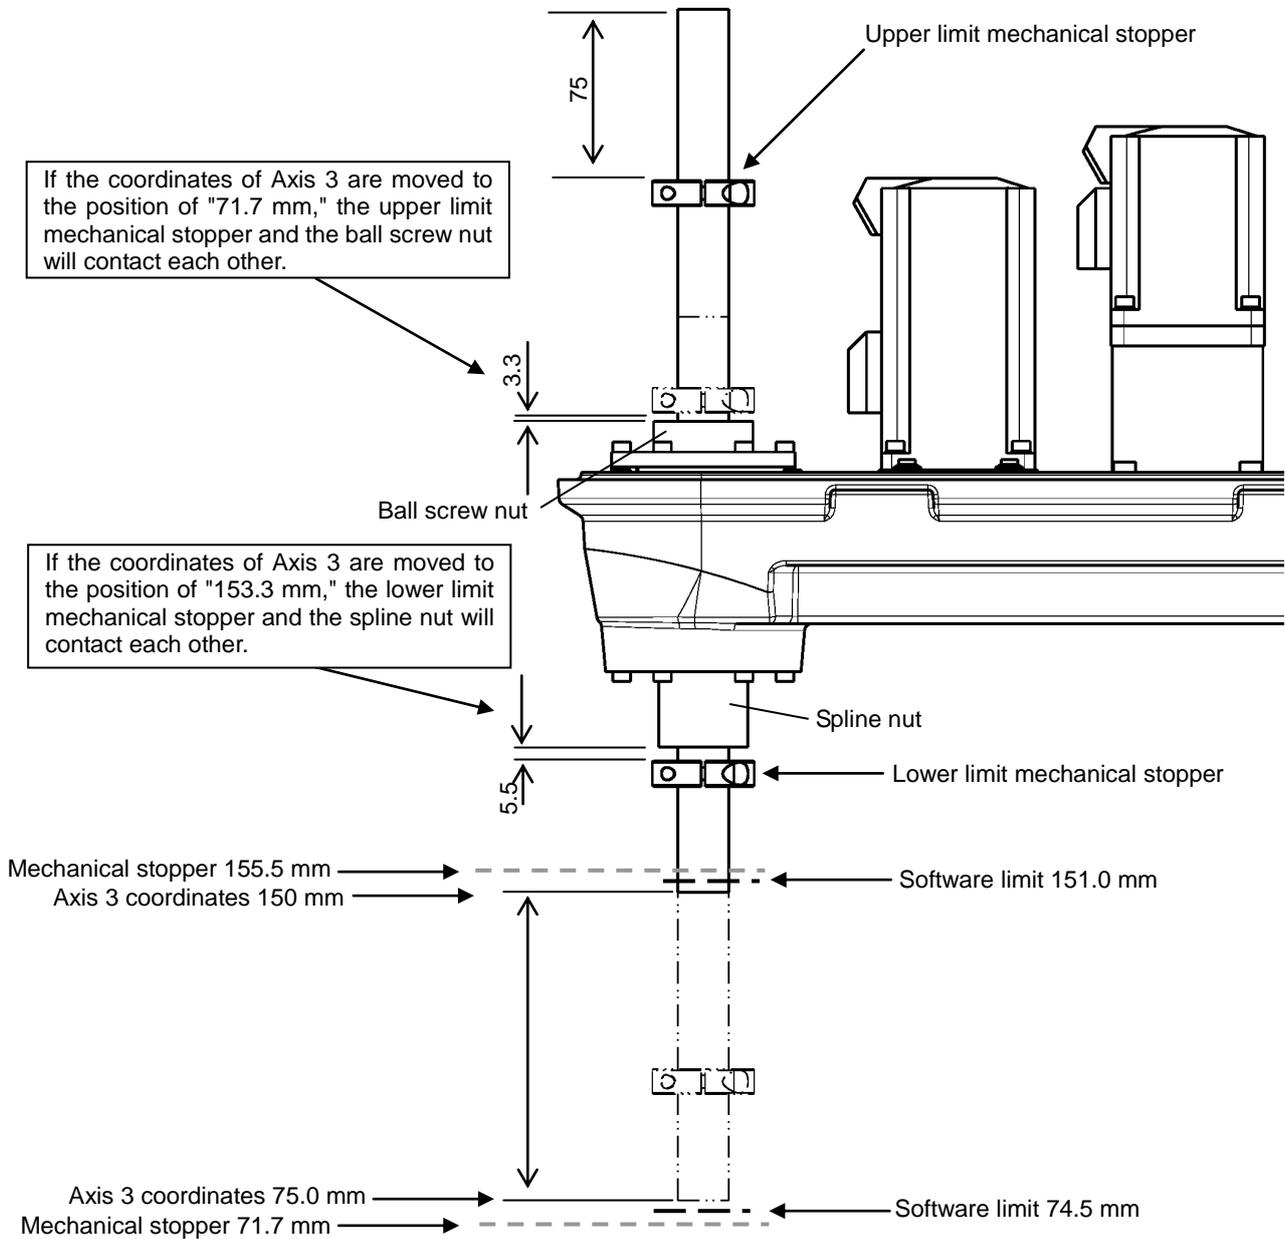

Fig. 8.10 Changing the Operating Range of Axis 3 (THL500, THL600 and THL700)
- 3) When the mechanical stoppers are changed, be sure to also change the software limits. Regarding how to change software limits, see Para. 7.2.4 and Fig. 8.10. After changing the software limit, while pressing the axis 3 brake release switch, move Axis 3 manually, and make sure that the software limit is correctly set.
Fig. 8.10 shows the settings of the operating range when the upper limit mechanical stopper was moved 75 mm downward.